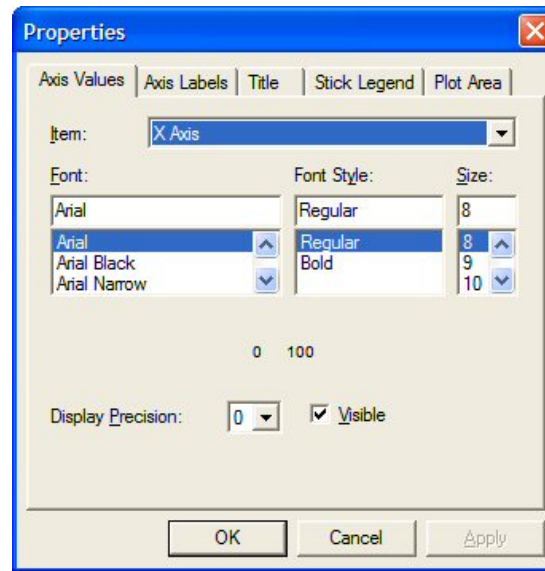

Figure 5. Ship Track Properties Dialog
- *How do I manually set the ranges for the plot axes?* Right-click the ship track plot and click on **Properties** (Figure 5). Click the **Plot Area** tab. Manually enter values for **Left**, **Right**, **Top**, and **Bottom**. On this property page, you may also change the font, turn on or off the grid lines and set their style, and change the aspect ratio method. Click **OK**.